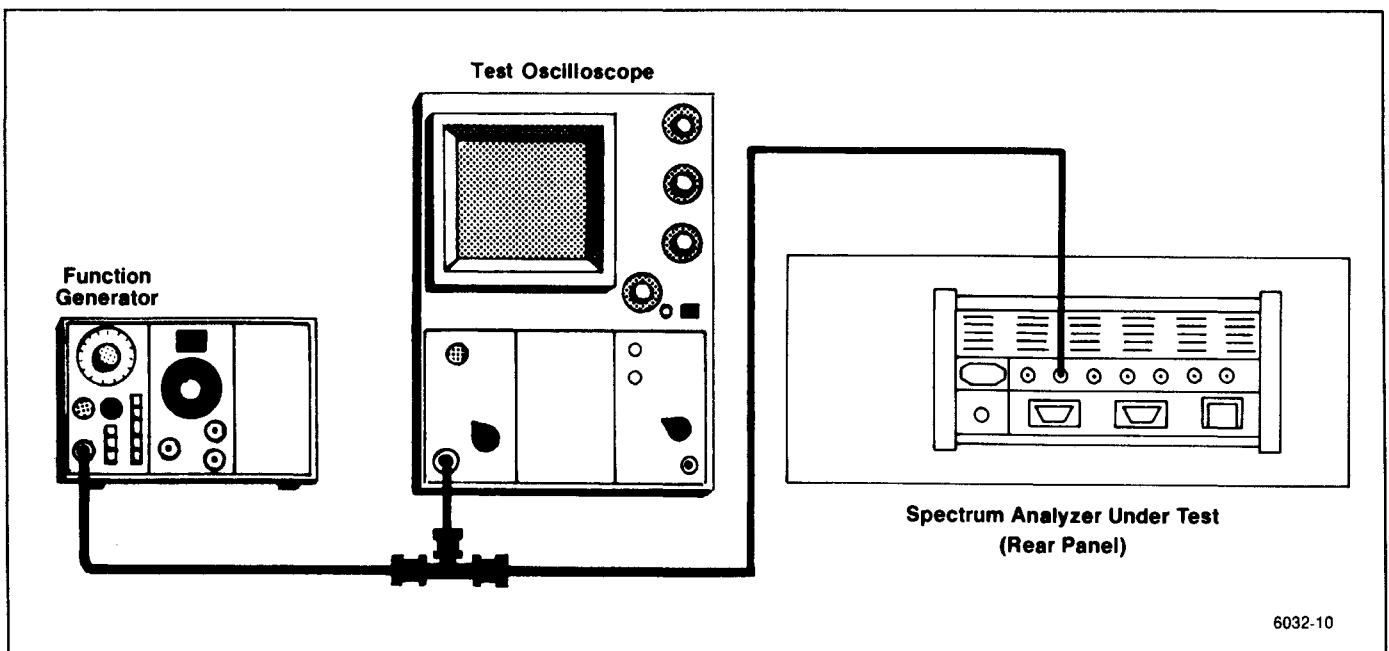

Figure 4-20. Test equipment setup for checking external triggering and horizontal input characteristics.
h. Reconnect the test equipment as shown in Figure 4-20.
a. Connect the test equipment as shown in Figure 4-20. Set the Spectrum Analyzer controls as follows: